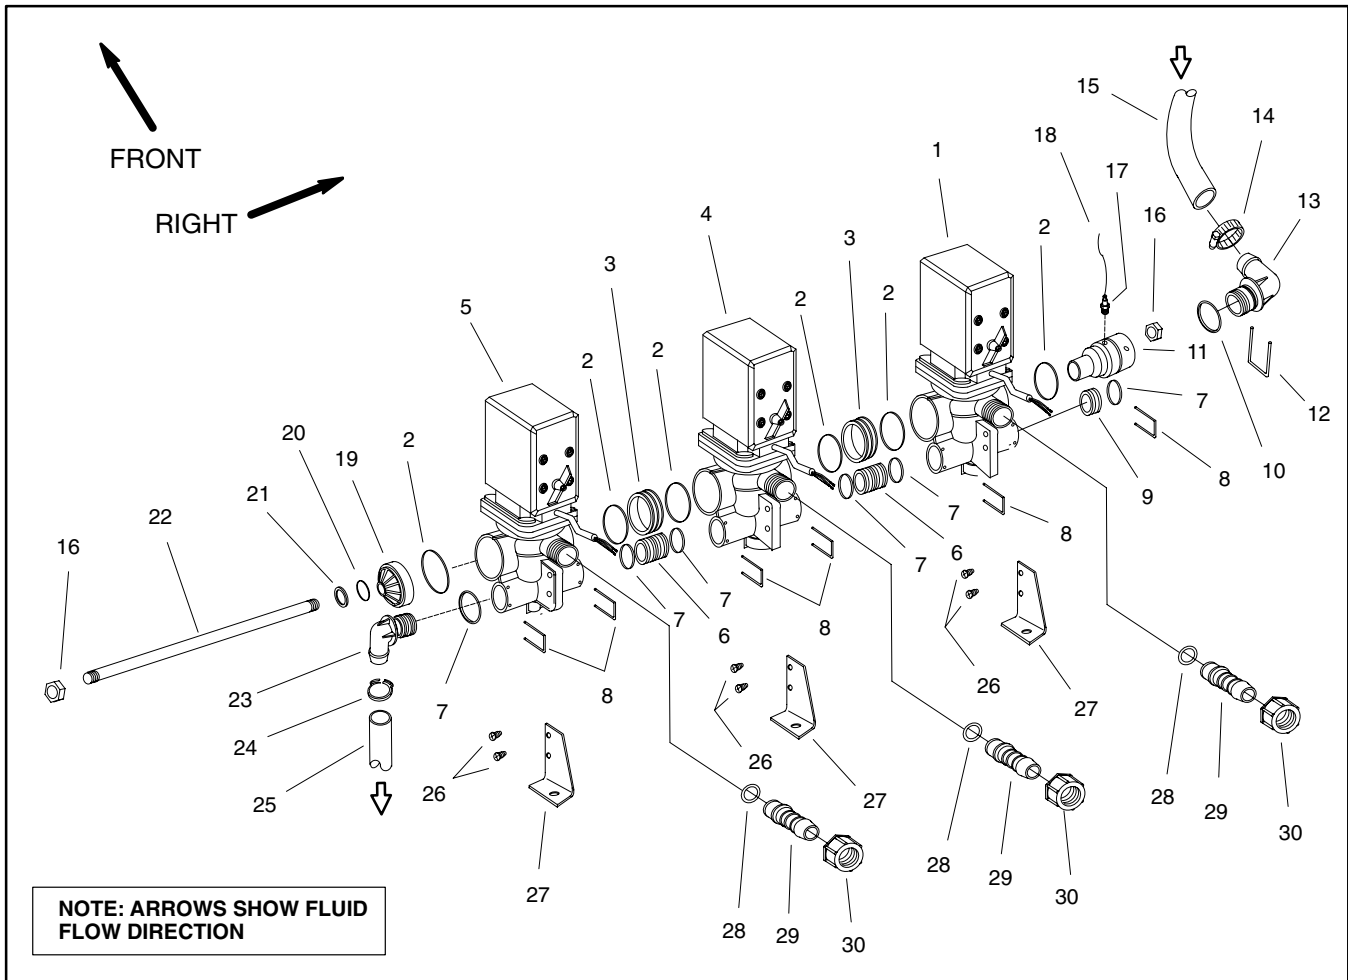

Figure 21
#### Disassembly (Fig. 21)
1. Separate boom valve motors as needed using Figures 21 and 22 as guides. Discard all removed o-rings and gaskets.
#### Assembly (Fig. 21)
1. Reassemble boom valve motor assembly using Figures 21 and 22 as guides. Replace all removed o-rings.
2. Before installing rod (Item 22) into assembly, thread nut (item 16) fully onto rod end that has fewer threads. Make sure that o-ring (Item 20) is not damaged during installation over rod.